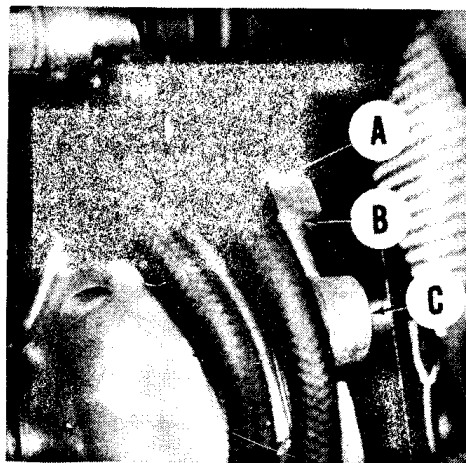

Fig. N2-9—Primary chain adjustment is accomplished by turning loosening bolt (C) and turning nuts (A & B).
PRIMARY CHAIN. The primary chain is adjusted to provide 1/2-3/4 in. total up and down play of chain as follows: Loosen nuts (A & C—Fig. N2-9) and lower transmission bolt. Turn nut (B) until primary chain has correct free play. Retighten all nuts and adjust rear chain tension.